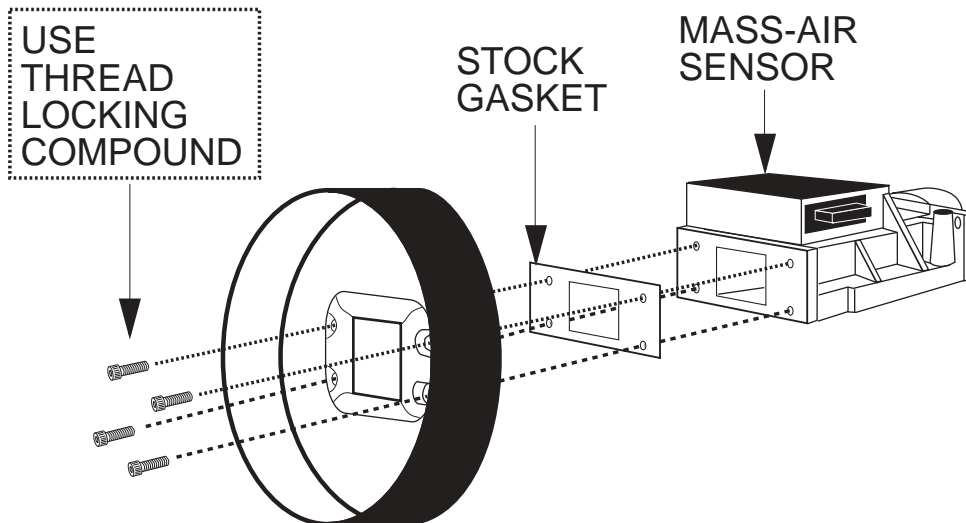

fig. 1
- 10) Install the K&N filter adapter onto the mass-air sensor using the stock gasket and four allen bolts. Use a thread locking compound and do not over-tighten the bolts. (see fig. 1)